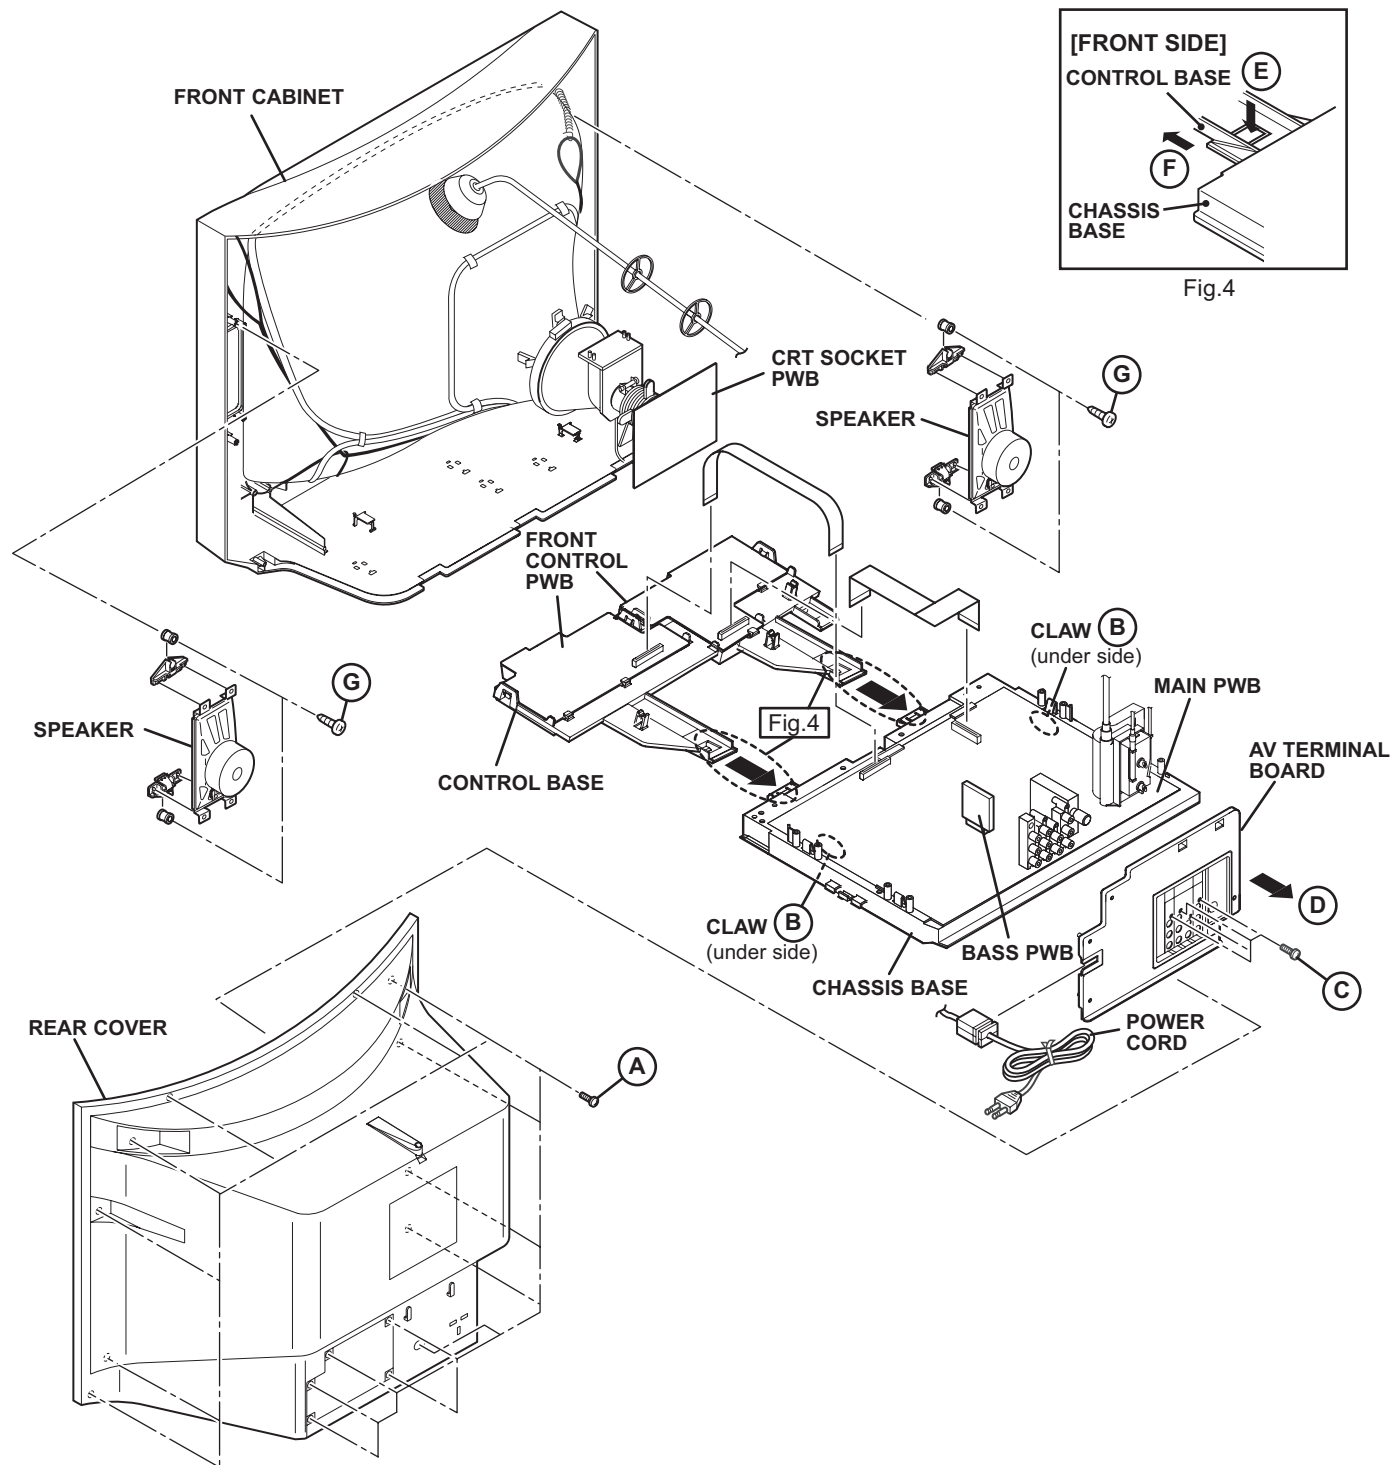

Fig.3
- (1) Remove the 16 screws **[A]** as shown in Fig.3.
- (2) Withdraw the REAR COVER toward you.
- (1) Slightly raise the both sides of the CHASSIS by hand and remove the 2 claws **[B]** under the CHASSIS from the front cabinet as shown in Fig.3.
- (2) Withdraw the CHASSIS backward.
- (1) Remove the 4 screws **[C]** as shown in Fig.3.
- (2) When you pull out the AV TERMINAL BOARD in the direction of arrow **[D]** as shown in Fig.3, it can be removed.
- (1) Remove the 2 screws **[G]** as shown in Fig.3.
- (2) Withdraw the SPEAKER backward.
- (3) Follow the same steps when removing the other hand SPEAKER.